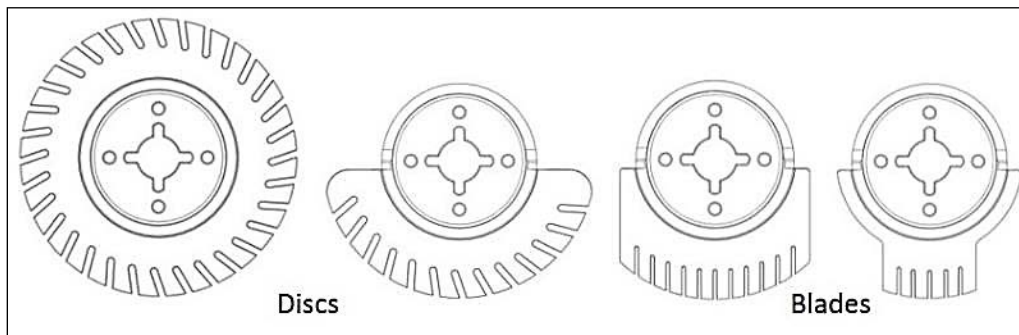

Figure 1. GFR-Disc/Blade Configurations
- 3.1.1. Select an appropriate size/configuration GFR-Disc/Blade for the removal application being performed. See **Figure 1**.